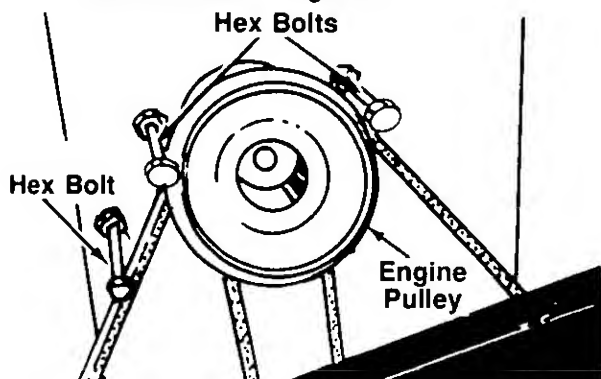

FIGURE 27.
Figures 27 through 30 are shown with the unit tipped up for clarity. It is not necessary to tip the unit to remove the belts.
3. Remove the three hex bolts (belt keepers) from the engine pulley belt guard. See figure 27.
Make certain hex bolts are reassembled as shown in figure 27.